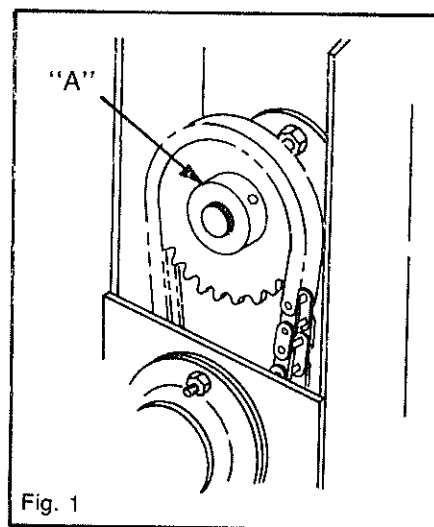

Fig. 1
1. Loosen sprocket (A) Fig. 1 set screws and locking collar set screws behind sprocket. Loosen locking collar by turning.
3. Disassemble gear box from housing support (C).
4. Loosen both set screws and locking collars of housing bearings (D).
5. Remove (6) carriage bolts, lock washers and hex nuts (E) securing housing bearings.
6. Slide gear case as far as possible to the right side and remove the entire auger shaft assembly. Disassemble rear sprocket (A) Fig. 1 and key in shaft as complete shaft assembly is being removed.
2. Secure fan assembly coupling (F) in place.
3. Place both end housing bearing assemblies (D) onto auger shaft.
4. Insert complete assembly into housing. Assemble square key and sprocket (A) Fig. 1 onto rear gear box shaft.
6. Secure flange bearings (D) to end housings.
8. Tighten locking bearing collar behind sprocket (A) Fig. 1 and tighten set screws.
9. Line up rear sprocket (A) and secure with set screws.
10. Tighten locking collar and set screws on each end housing bearing (D).